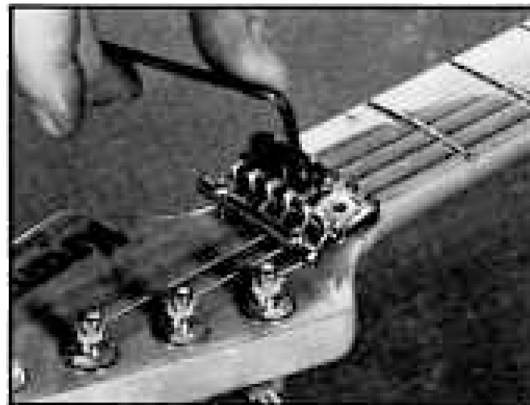

FIGURE SG 5
B. When strings are installed replace locking elements Fig. SG 5.